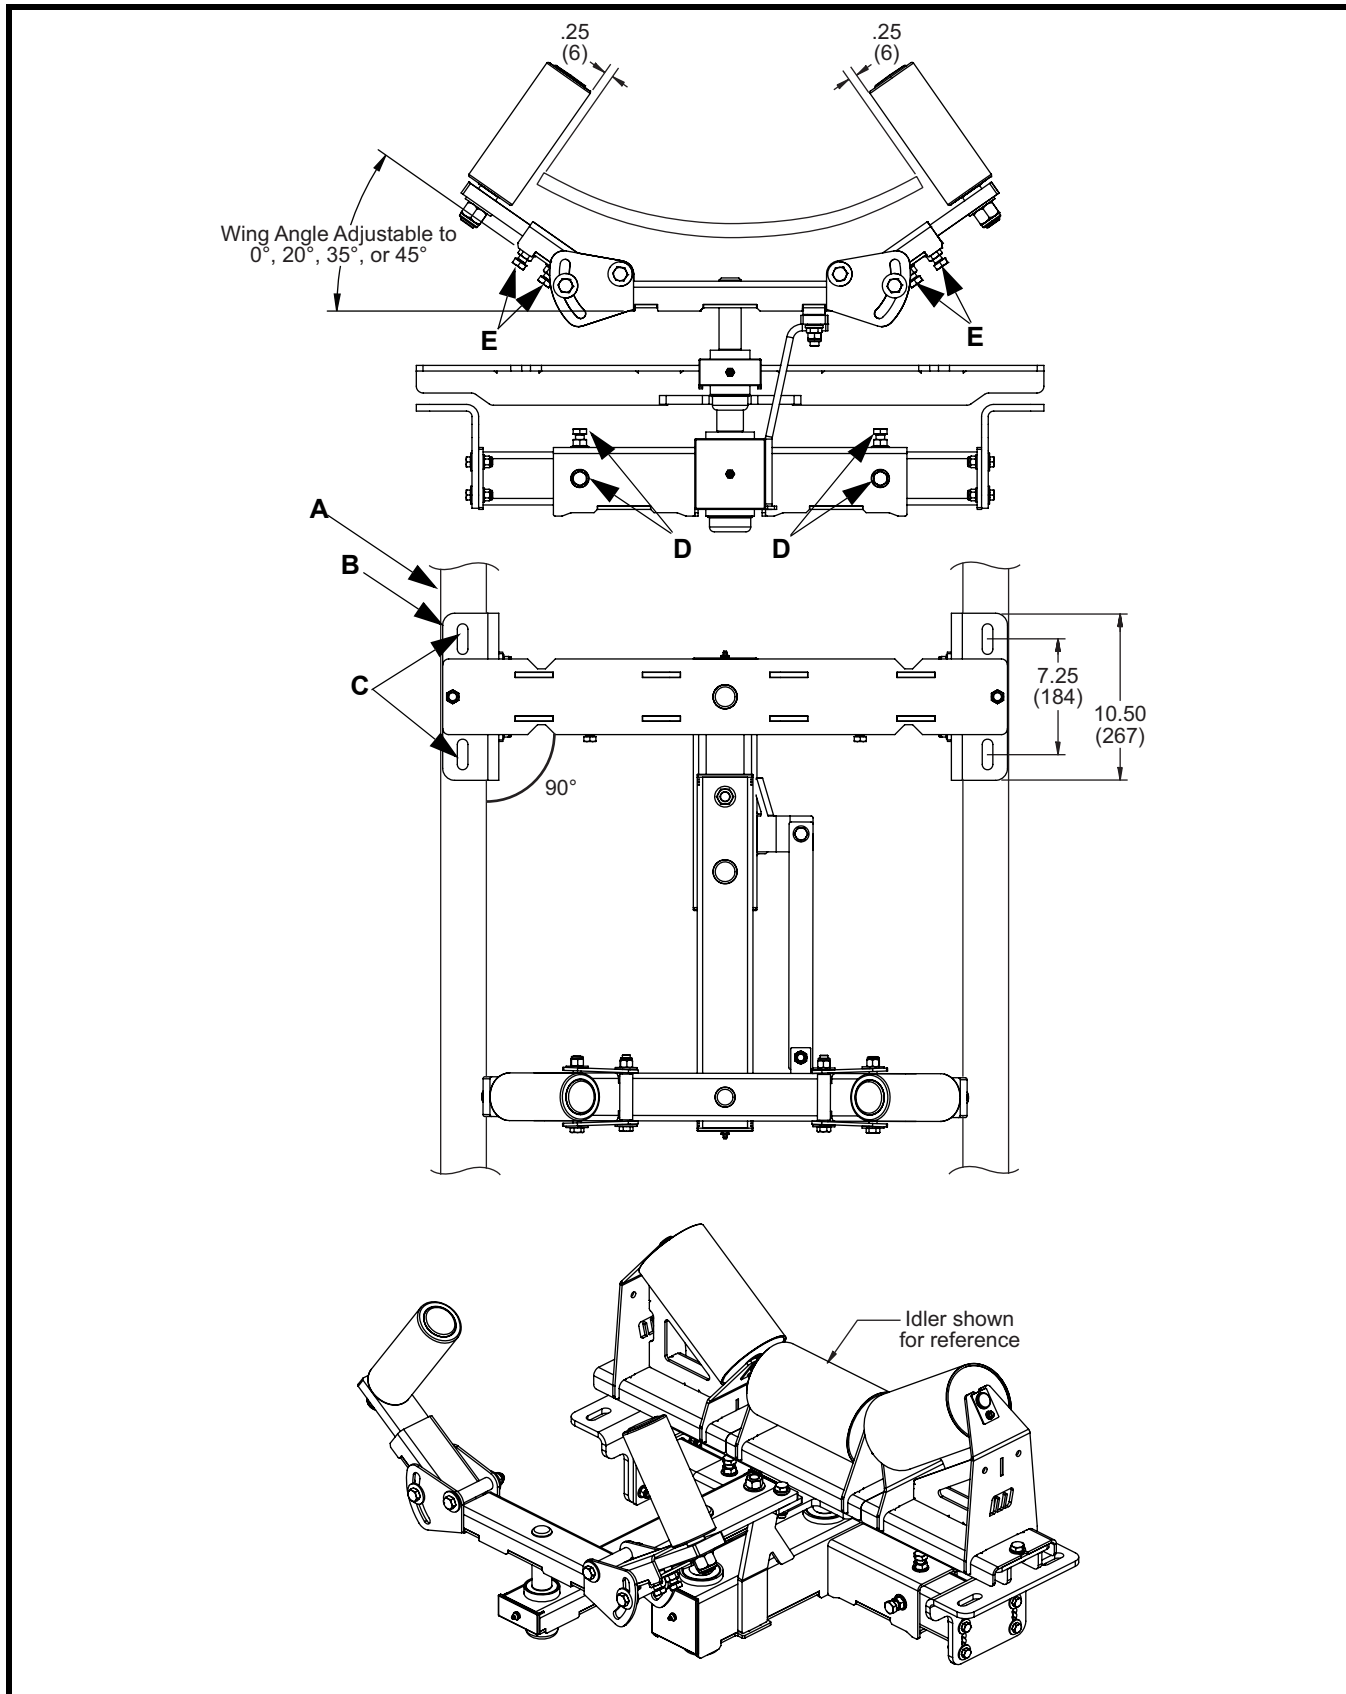

Figure 3. Mounting Dimensions—Martin® Tracker™ HD (Upper Unit)
5. Mark location of support arms (B) on stringers (A). See Figure 3 for mounting dimensions.
7. Mount support arms (B) on farside stringer using cap screws, flat washers, compression washers, and nuts (C).
9. Slide operator side support arms into Martin[®] Tracker[™] HD assembly and fasten to mounting brackets using cap screws, flat washers, compression washers, and nuts (C).
10. Center assembly on belt and tighten support arm set screws (D).
11. Position each sensing roll 1/4 inch from belt and tighten set screws (E).